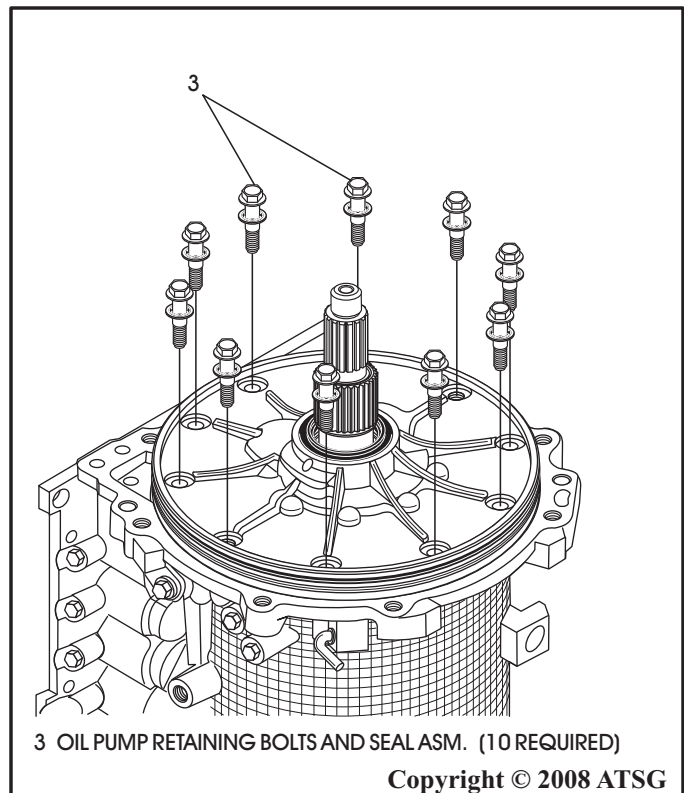

Figure 212
66. Install the oil pump to case bolts with seals, as shown in Figure 212.